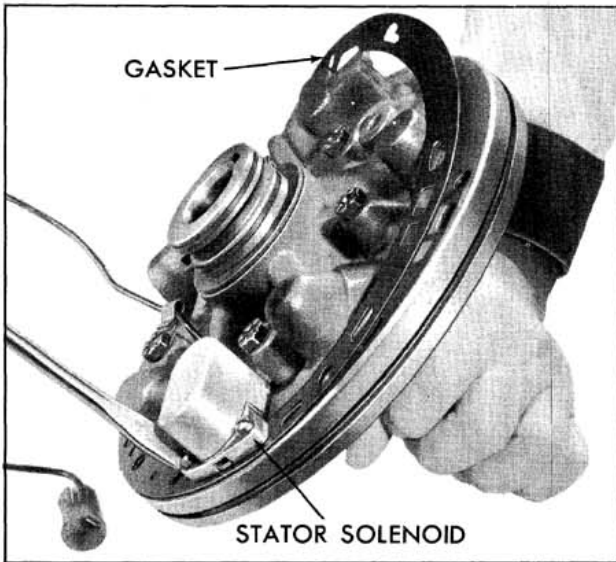

Fig. 6-124 Installing Solenoid and Gasket
16. Attach stator solenoid with attaching screws. (Fig. 6-124)